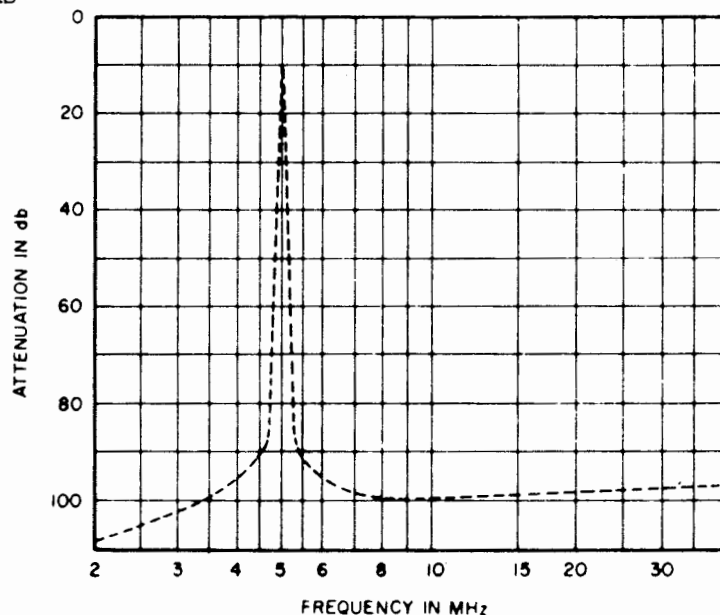

Figure 4-3 Antenna Coupler Groups AN/SRA-38, -39, -40, -49 and -50
- q. SELECTIVITY. - See Figure 4-3.